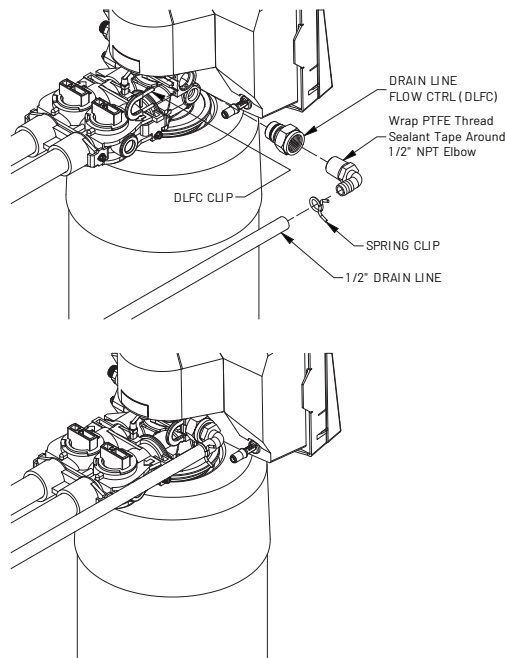

Figure 5
- Connect the drain line to the drain outlet on back of the valve, opposite the inlet connection (see figure 5). A fitting is required to connect the female pipe thread to the drain line. Run the drain line to the air gap.